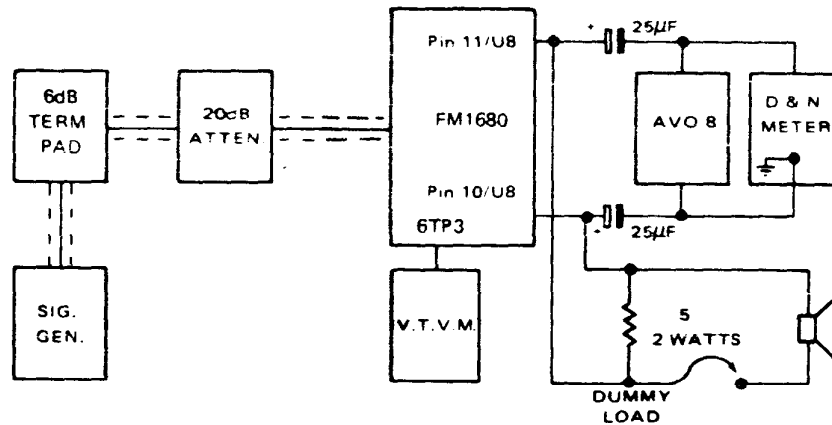

Figure 6
1. Set up the equipment as shown in Figure 6.
4. Adjust trimmers 4C1, 4C3, 4C6, 4C10 and 4L9 for maximum S/N ratio while gradually reducing the output of the signal generator until a S/N ratio of 32 dB (N) or 40 dB (NW) is obtained with an input of 1  $\mu$ V.
7. Tune 4C3 for maximum S/N ratio while decreasing the output of the signal generator to maintain a S/N ratio of 32 dB (N) or 40 dB (NW).
10. Re-tune 4C6, 4C10 while decreasing the output of the signal generator until a S/N ratio of 32 dB (N) or 40 dB (NW) is obtained.